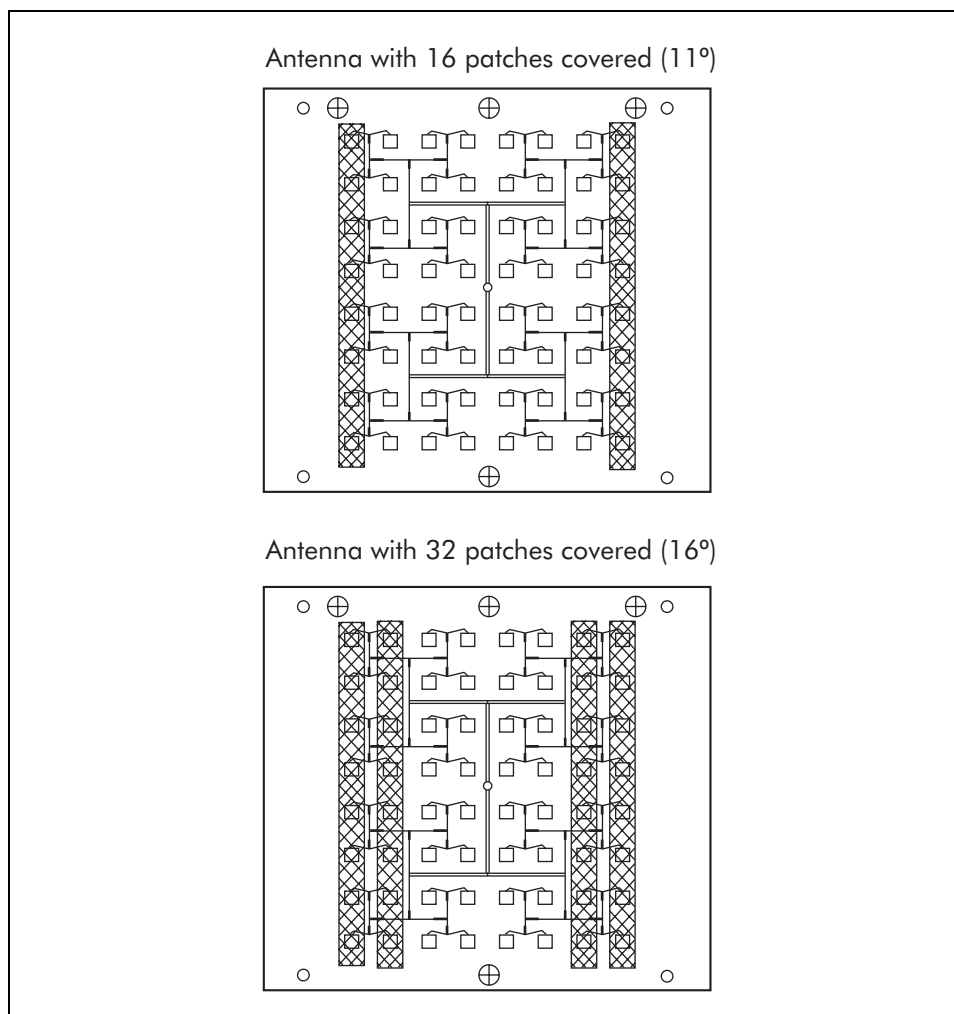

Figure 4-1: Antenna patterns
The detection pattern is adjustable by use of the sensitivity adjustment, and by changing the configuration of the transmitting and receiving antennas. The antenna configuration is changed by installing RF absorbent pads over selected antenna elements (see Figure 4-1). When no antenna pads are installed, the microwave beam is narrowest (7°). With sixteen of the elements covered, the beam is 11°. With thirty-two of the elements covered, the pattern is 16°. In general, the wide pattern should only be used when the separation distance between receiver and transmitter is 15 m (50 ft.) or less. The medium range pattern should be used (if necessary) with separation distances of between 15 m (50 ft.) and 30.5 m (100 ft.). The narrowest pattern (unmodified antenna) must be used when the separation distance is greater than 30.5 m (100 ft.).
*Note: Cover only the elements shown in the illustration (Figure 4-1).*